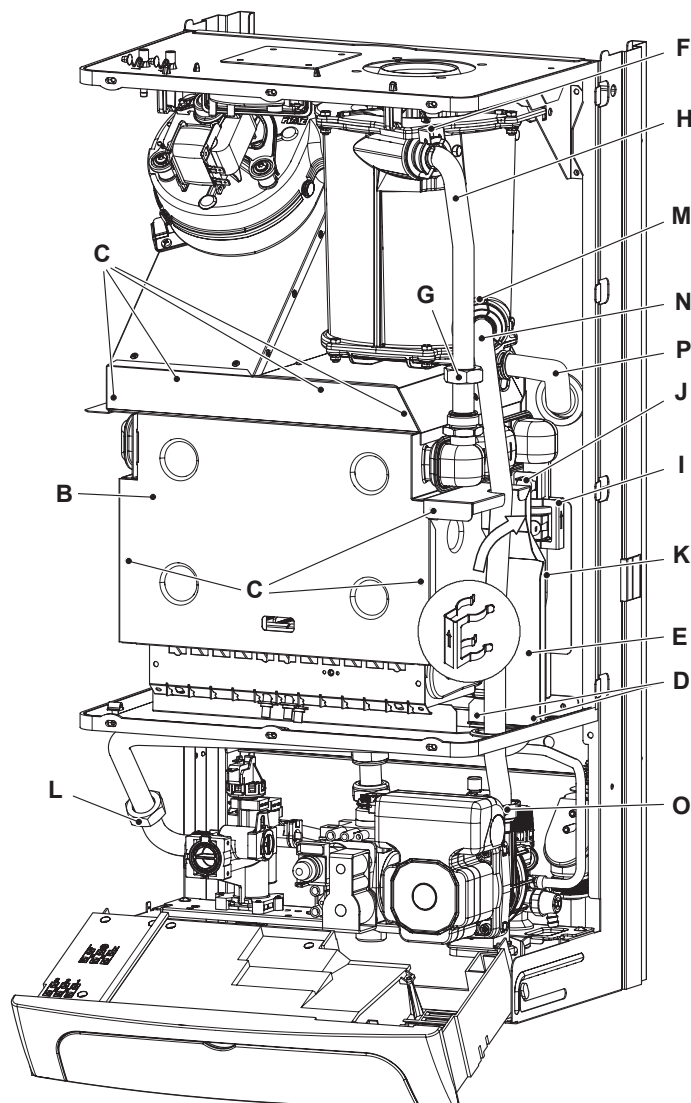

Figure 5.3
- 3 Remove the combustion chamber lid B by unscrewing the screws C (Figure 5.3).
- 13 Reassemble the boiler carrying out the removal operations in reverse order. Fit the clip I with the arrow pointing upwards as illustrated in Figure 5.3.